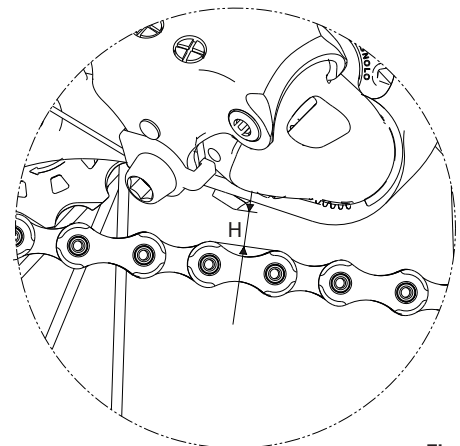

Fig.2
- Determine the correct length of the chain positioning it on the sprocket and the smallest chainring and ensuring that the measurement H (Fig. 2), the distance between the bottom part of the rocker and the upper part of the chain, is about circa 10 - 15 mm.